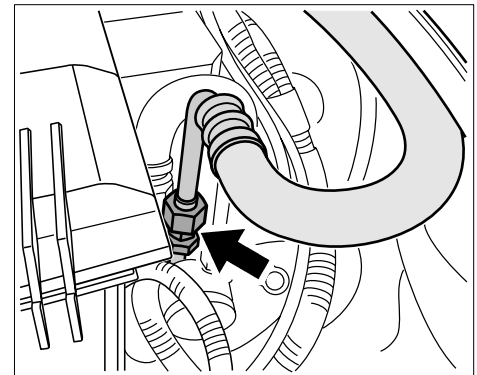

Figure 8
- 5.3 Place several cloths under the threaded joint between the fuel line and fuel distributor pipe supply line ⇒ *Figure 8 -arrow-* to absorb the fuel that emerges when you open the fuel line.
- 5.4 Counter at the supply line on the fuel distributor pipe and open the union nut on the fuel line ⇒ *Figure 8 -arrow-*.
5.7 Screw new fuel line, Part No. 955.110.235.01 (with different marking and pre-fitted spacer ring), onto the supply line on the fuel distributor pipe ⇒ *Figure 8 -arrow-* and tighten it. Counter at the supply line on the fuel distributor pipe when tightening the union nut.